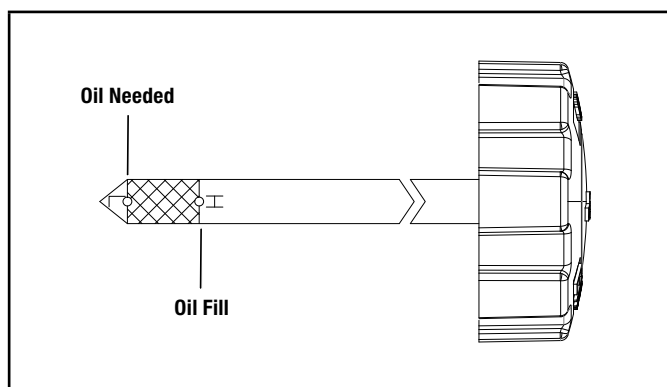

Figure 12B
- Insert the oil cap/dipstick into the oil filler neck but do not screw it in, then remove it to check the oil level (Fig. 12B).
- If the oil level is near or below the lower limit mark on the dipstick, remove the oil cap/dipstick, and fill with the recommended oil to the upper limit mark. Do not overfill (Fig. 12B).